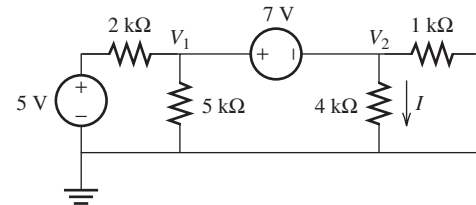

FIGURE P3.51 Circuit for Problem 3.51.
3.51 (H) Find I in Figure P3.51: